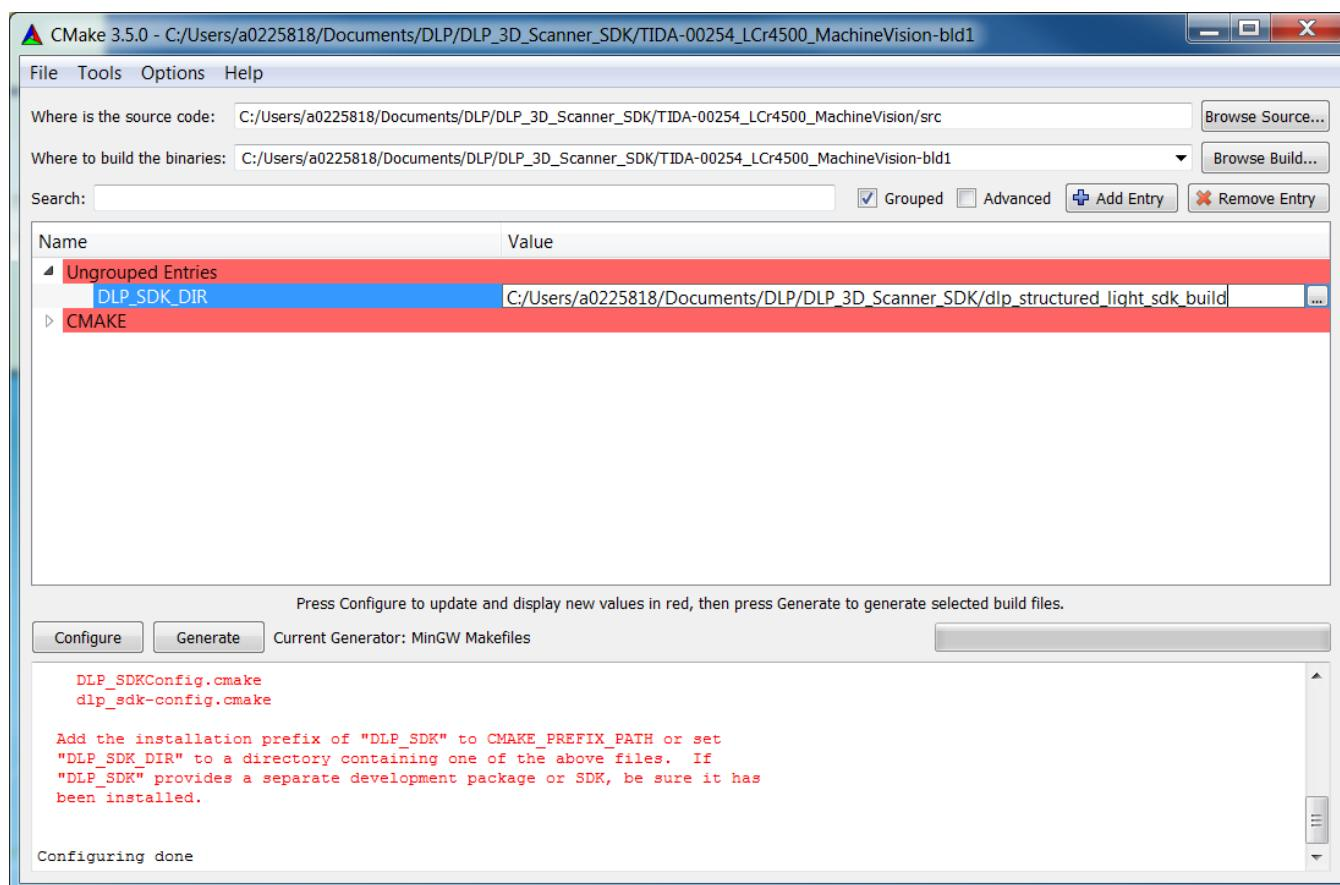

**Figure 57. CMake Configuration Options**
3. Next, click the "Configure" button and make sure that "MinGW Makefiles" is specified as the generator and that the "Use default native compilers" radio button is selected as shown in Figure 57. Click "Finish" to initiate the configuration process.